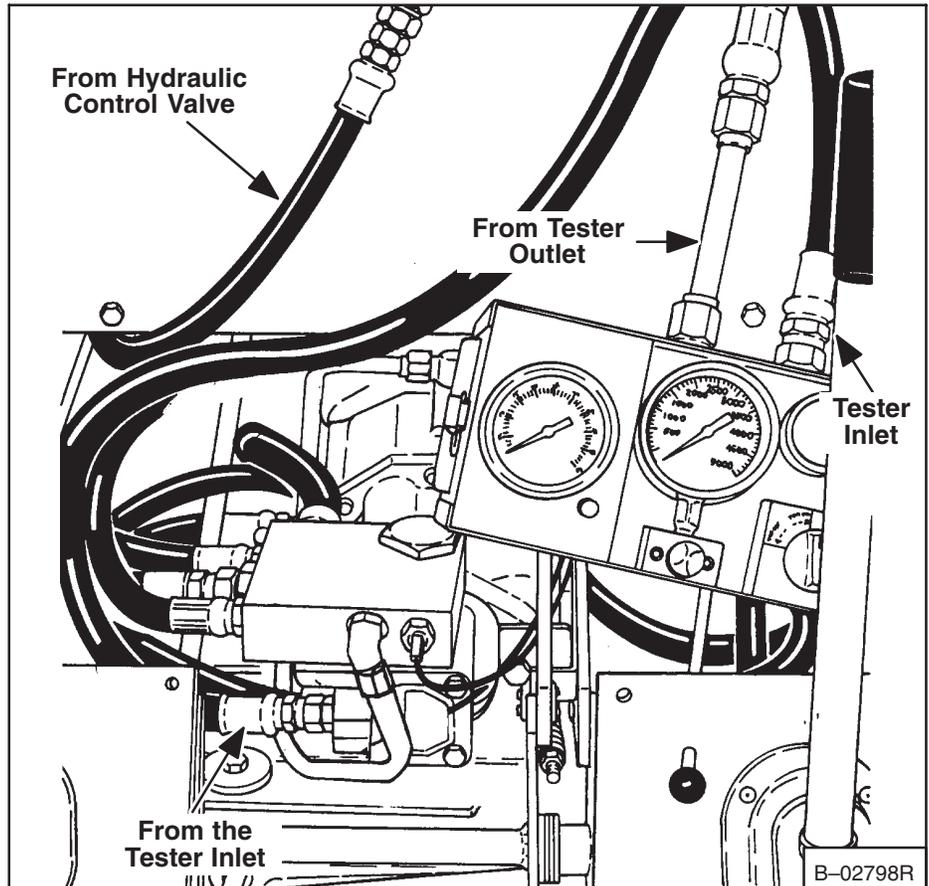

Fig. 2-22 Checking Pump Output
5. Remove the hose from the inlet of the control valve. This hose is the outlet of the hydraulic pump. Connect this hose to the inlet of the hydraulic tester (Fig. 2-22).
6. Connect the outlet hose of the hydraulic tester to the left port of the hydraulic control valve (Fig. 2-22).